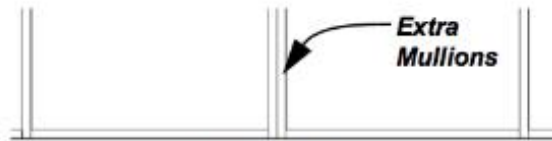

Figure 6–33
7. At the two lines where the curtain walls meet, extra mullions are added, as shown in Figure 6–33. These are not needed and should be removed.